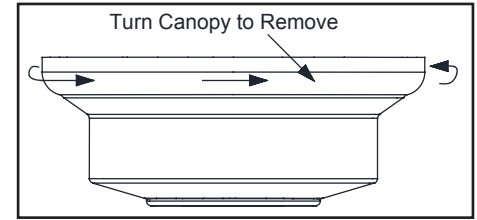

Figure 11
1. Remove the canopy ring from the canopy by turning the ring to the right until it unlocks. (Figure 11)